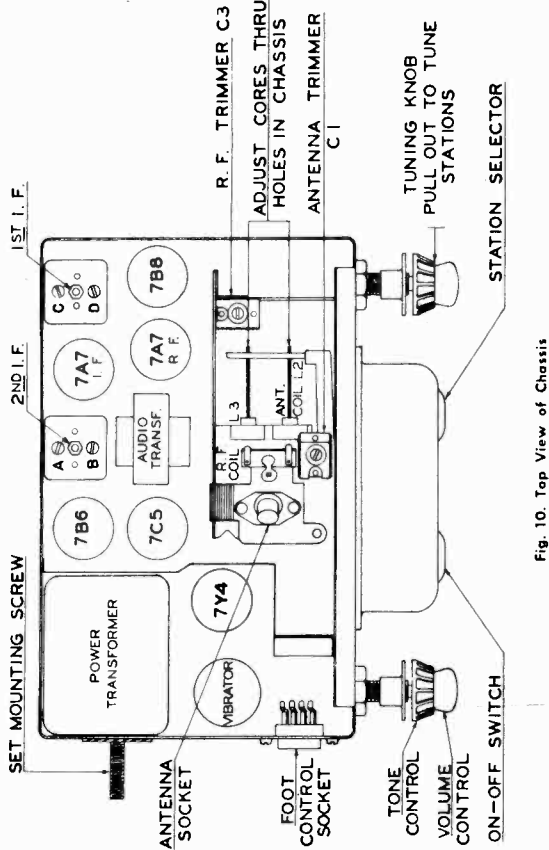
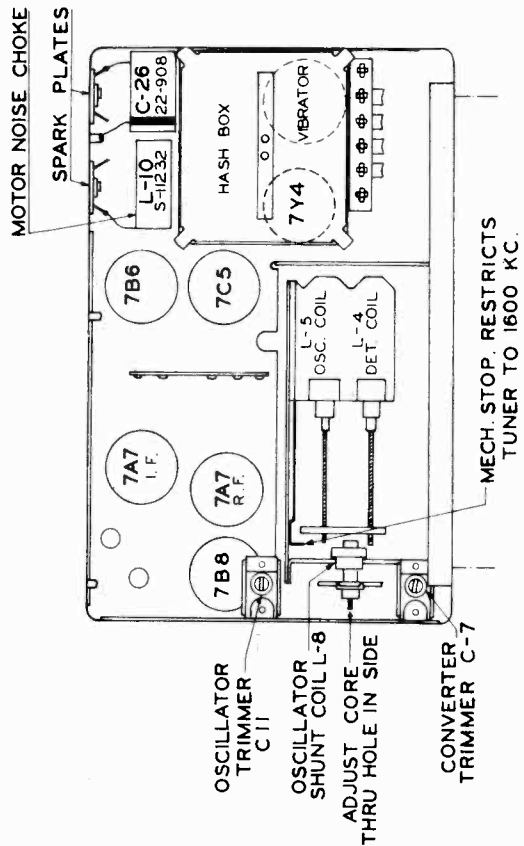

Fig. 10. Top View of Chassis
Fig. 11. Bottom View of Chassis
6. Adjust oscillator trimmer C-11 (Fig. 11) at 1700 Kc.
7. Adjust converter trimmer C-7, R.F. trimmer C-3, and antenna trimmer C-1 (Fig. 10 and 11) for maximum output reading.
10. Adjust oscillator core (Fig. 10) to scale at 1200 Kc.
11. Adjust the antenna core, R.F. core, and converter core (Fig. 10 and 11), for maximum output reading.
13. "Rock in" Shunt oscillator coil (Fig. 10) for maximum output reading. (This should only be done as a last resort.) This is the same as rocking in the paddler condenser on a ganged condenser receiver.
4. Adjust I.F. trimmers A, B, C and D (Fig. 10), in the order named for maximum output. Repeat the operation to assure accurate alignment.
4. Adjust oscillator trimmer C-11 (Fig. 11) for maximum response.
7. Adjust converter trimmer C-7 (Fig. 11) and R.F. trimmer C-3 (Fig. 10) for maximum response.